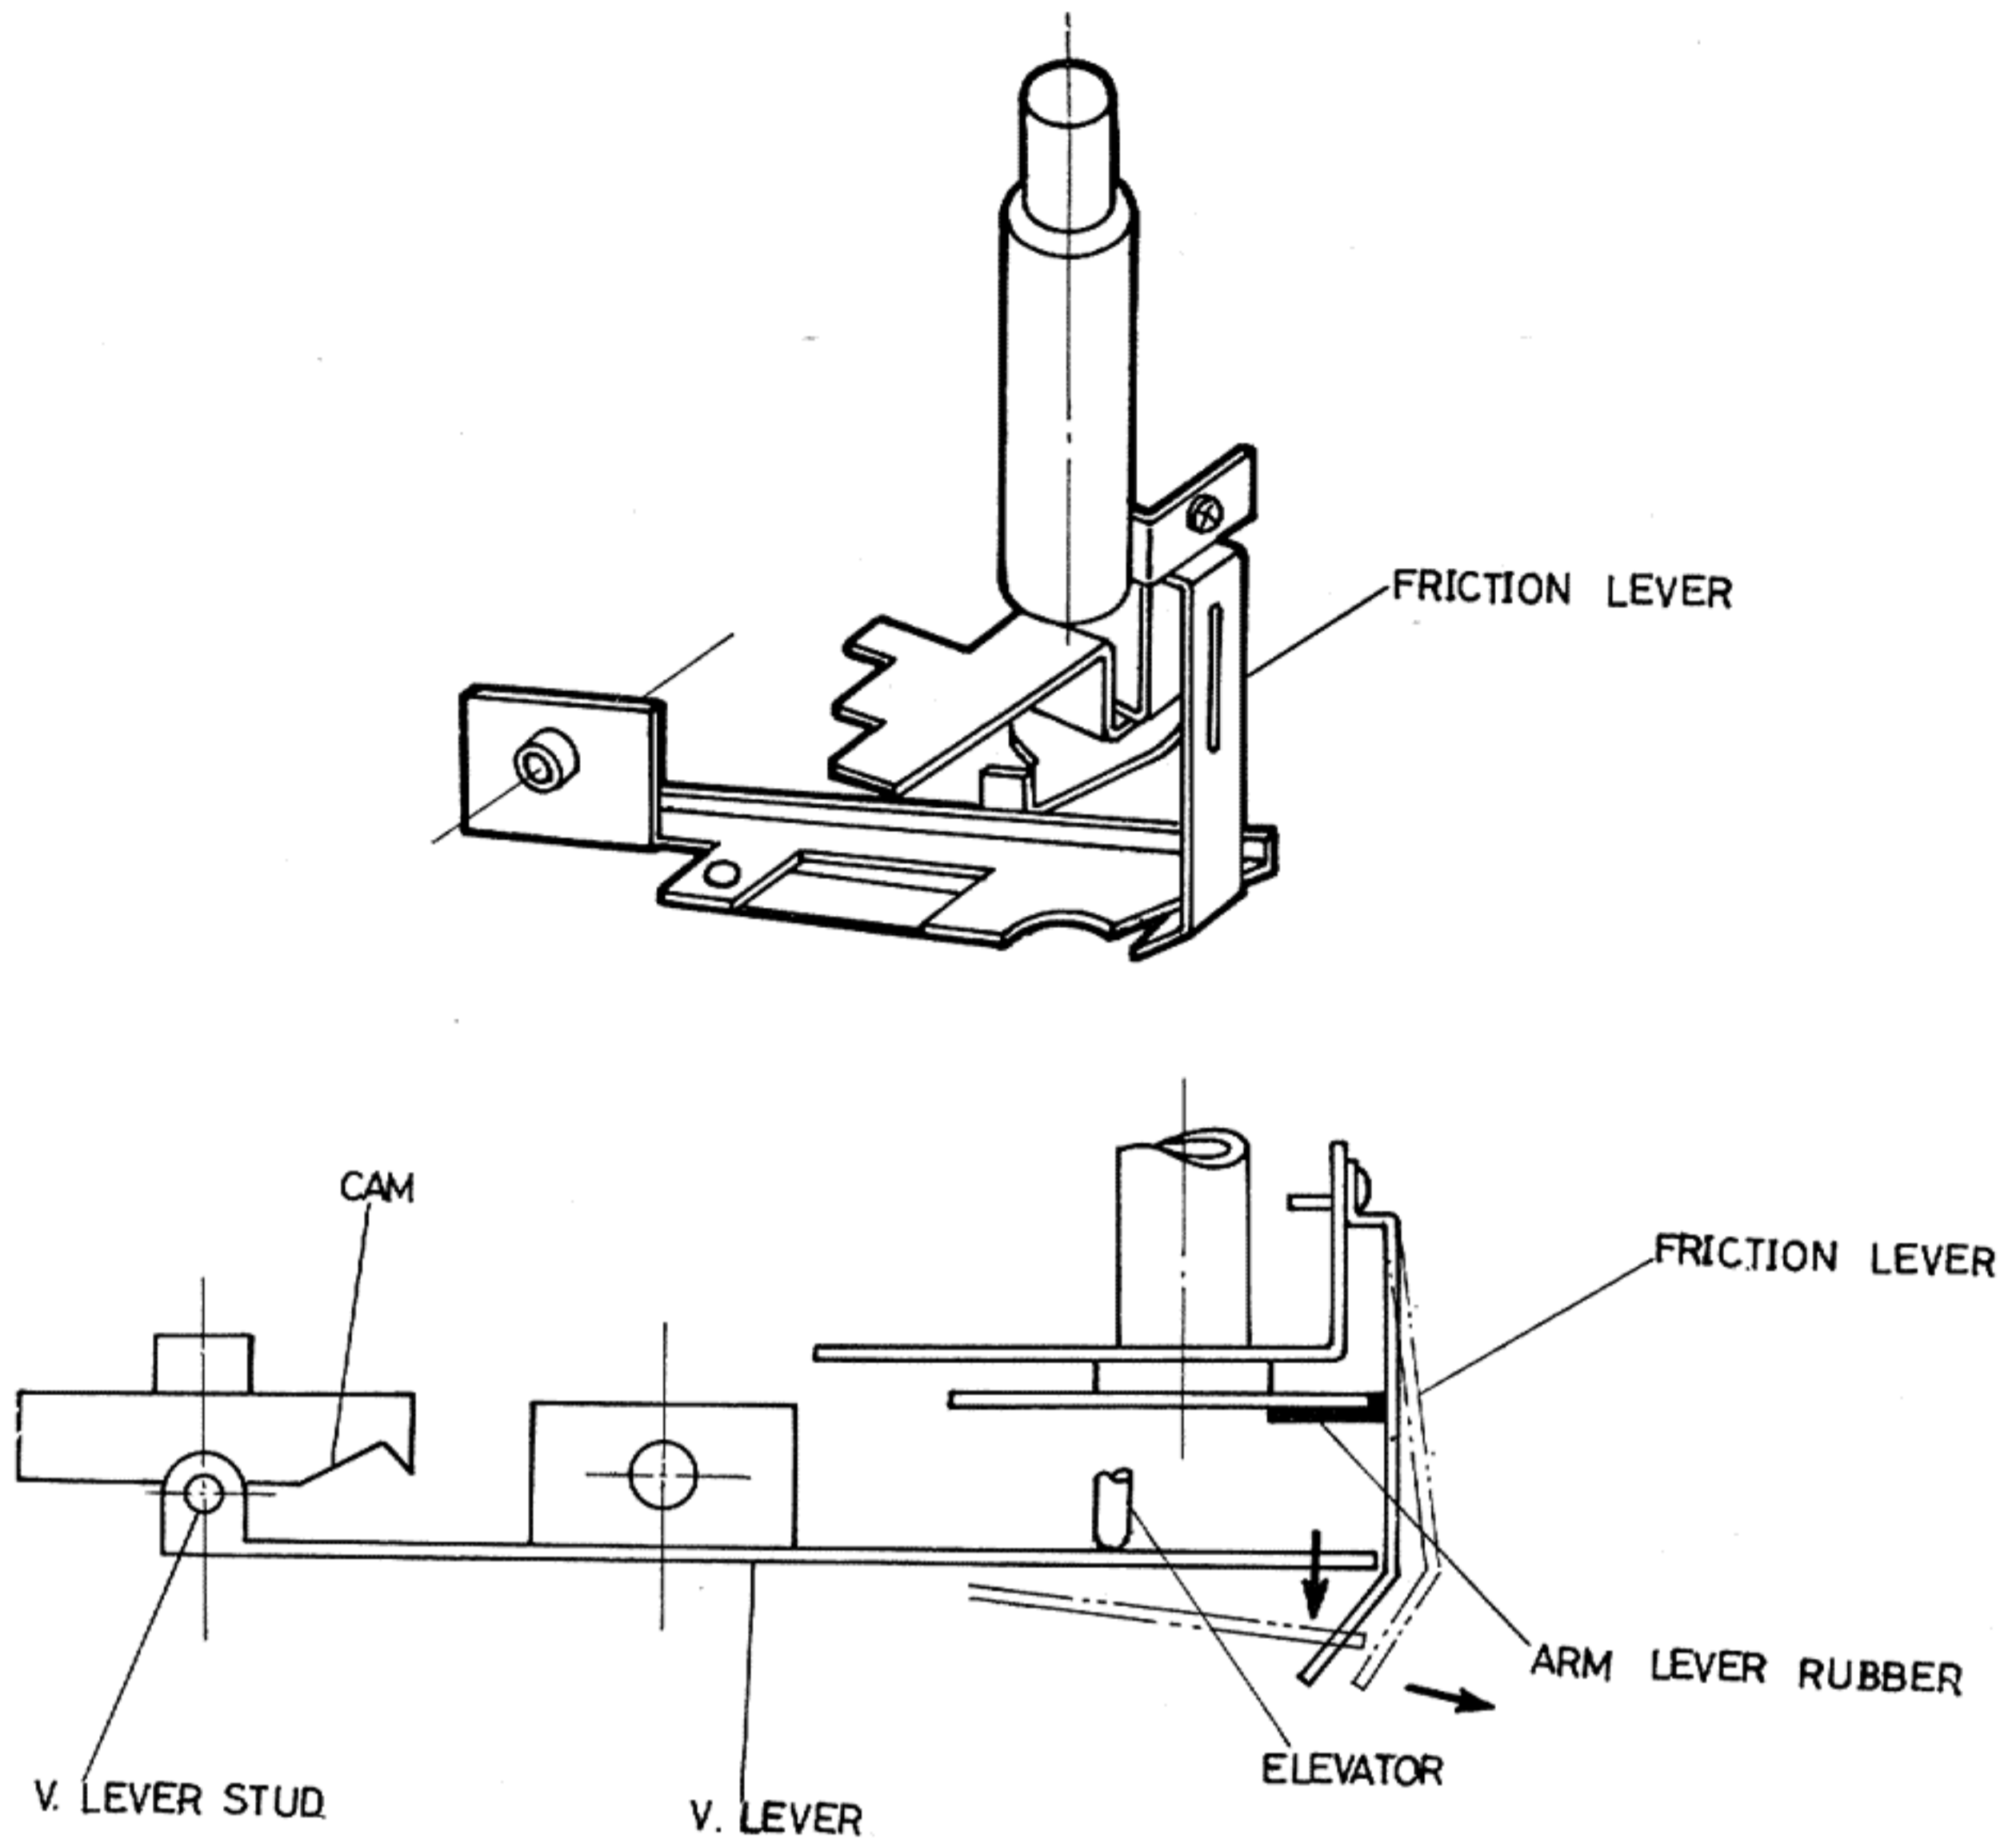

Fig. 10
- c. When the Pick-Up Lead-In, the Arm Lever slows down, revolution of Cam (Fig. 10) pushes the Elevator upward and creates friction between Arm Lever and Friction Lever. This action stabilizes the Lead-In.